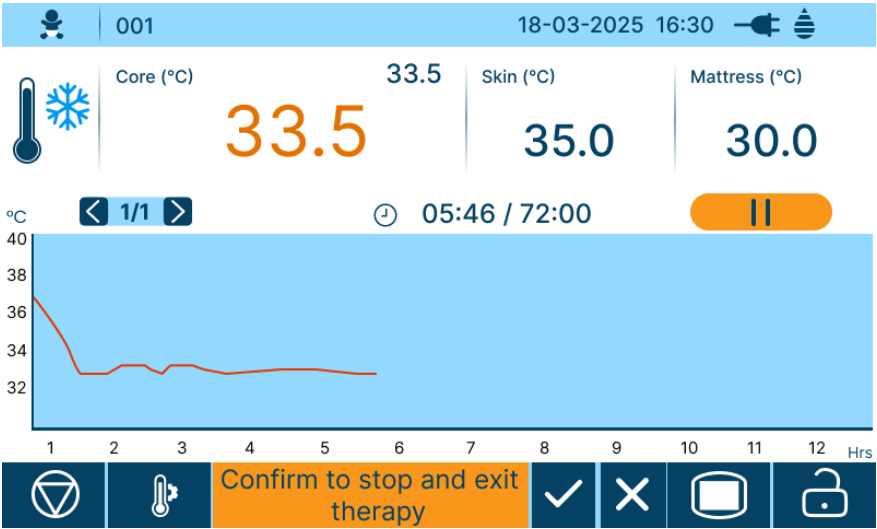

Figure 80: User confirmation “Confirm to stop and exit therapy” displayed
- Press the left or right navigation buttons above the graph to go forward or backward in time as shown in Figure 80 and 81